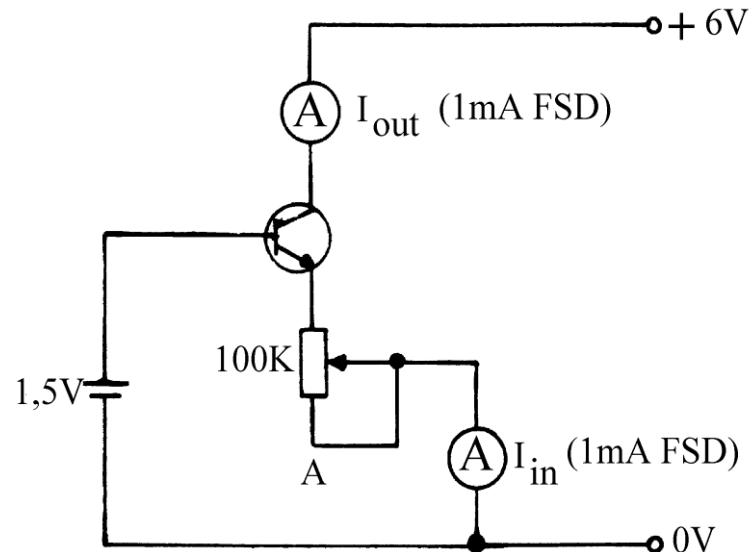

Figure 1
- Construct the circuit shown in Fig. 1.